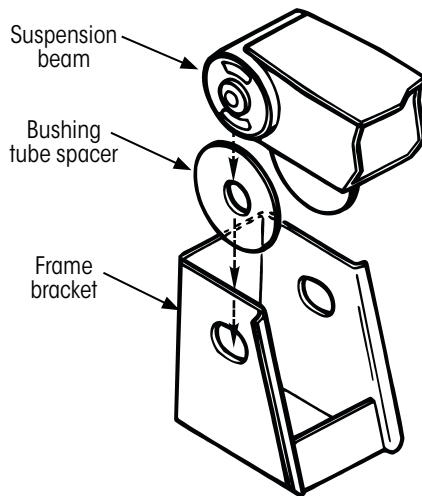

Figure 22: Suspension beam placement
3. **Place** the suspension beam pivot bushings into the frame brackets. At this time, **install** pivot bushing tube spacers (Figure 22).